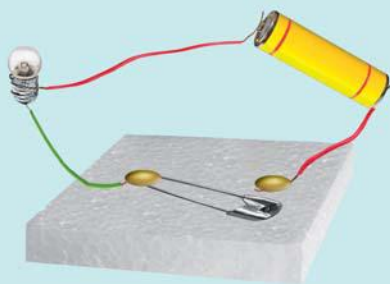

Fig. 14.21
2. Draw the circuit diagram to represent the circuit shown in Fig.14.21.